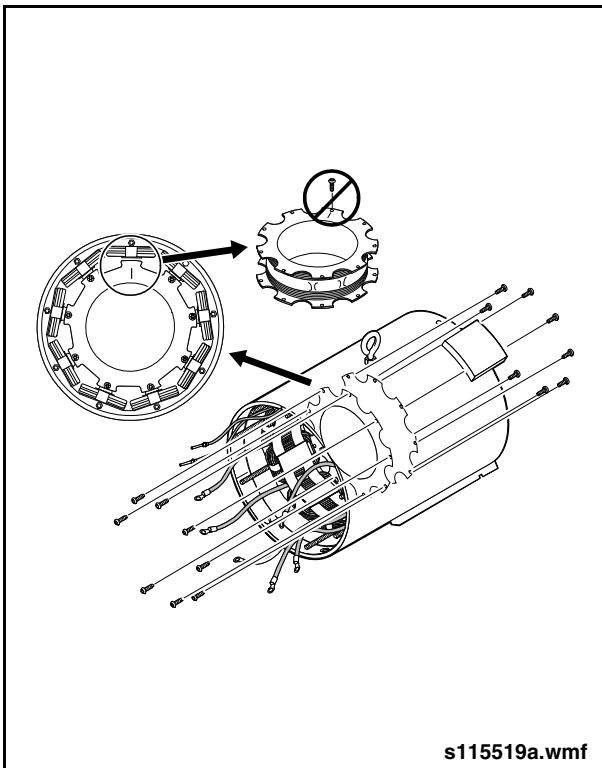

Fig. 9-27: Field Coil Screw Installation
- d. Secure field coil with screws in both the anti-drive end and the drive end. Use Loctite-222 on the screw threads and torque screws to 20 in-lb. (2.3 Nm). See "Fig. 9-27: Field Coil Screw Installation" on page 33.